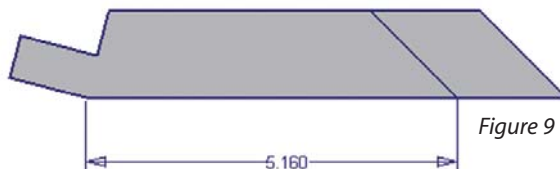

Figure 9
4. Draw the Fold line as shown in figure 9.